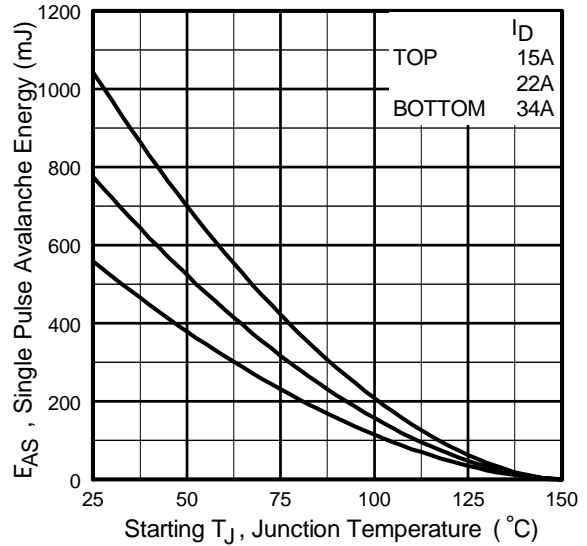

Fig 13. Maximum Avalanche Energy Vs. Drain Current
- ② Starting $T_J = 25^\circ\text{C}$, $L = 0.97\text{mH}$, $R_G = 25\Omega$, $I_{AS} = 34A$ (See Figure 13)
- ③ $I_{SD} \leq 34A$, $di/dt \leq 765A/\mu s$, $V_{DD} \leq V_{(BR)DSS}$, $T_J \leq 150^\circ\text{C}$.
④ Pulse width $\leq 400\mu s$; duty cycle $\leq 2\%$.
⑤ $C_{oss \text{ eff.}}$ is a fixed capacitance that gives the same charging time as C_{oss} while V_{DS} is rising from 0 to 80% V_{DSS} .